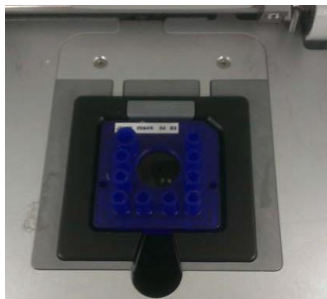

Figure 7. Chip in the LabChip GX Touch /GXII Touch instrument
- 3 Insert the chip into the LabChip GX Touch /GXII Touch instrument (Figure 7) and close the chip door securely.